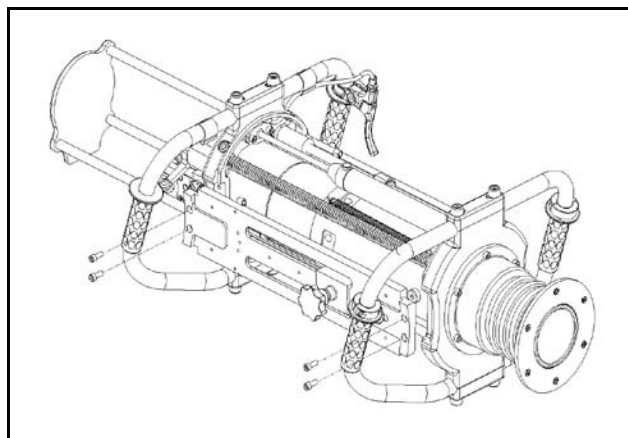

Figure 16 – Body Side Rails
1. Remove four (4) cap screws attaching the Side Rails (see Figure 16) using a 3/16” Hex Driver. Carefully Remove the Side Rail. Do not detach the cable strap for the trigger cable.
2. Return the side rail into position (check for orientation) lightly tap into place with mallet. Install four (4) cap screws attaching the Side Rails using a 3/16” Hex Driver. Carefully Remove the Side Rail.